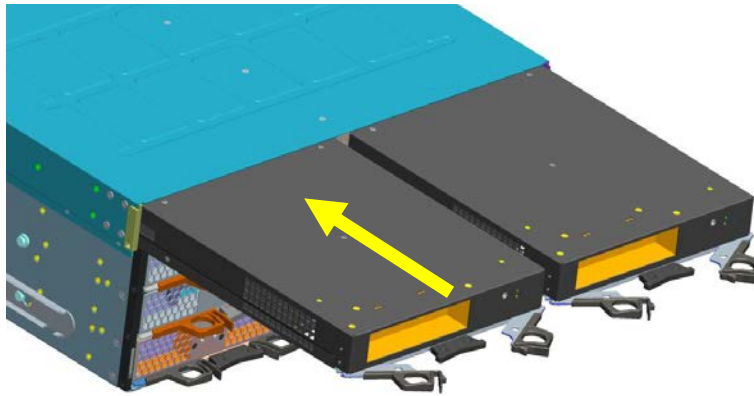

Figure 42. **Inserting Canister into Chassis**
1. Insert canister into chassis rear cage slot (Figure 42).